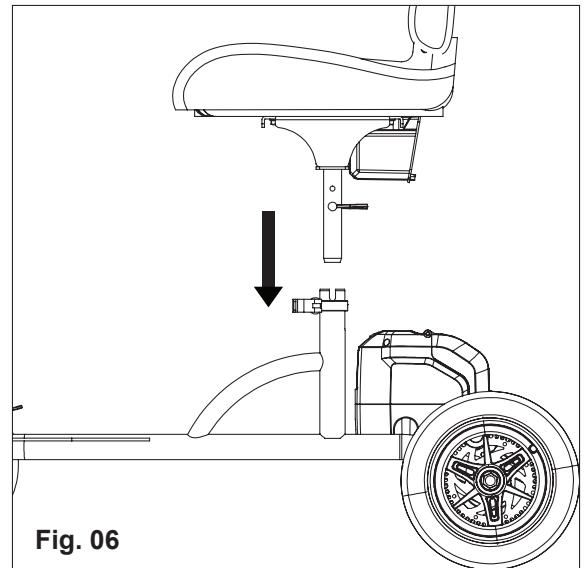

Fig. 06
- 1) Insert the seat to the main frame kit. Align the holes of seat stand and main frame (Fig.06).